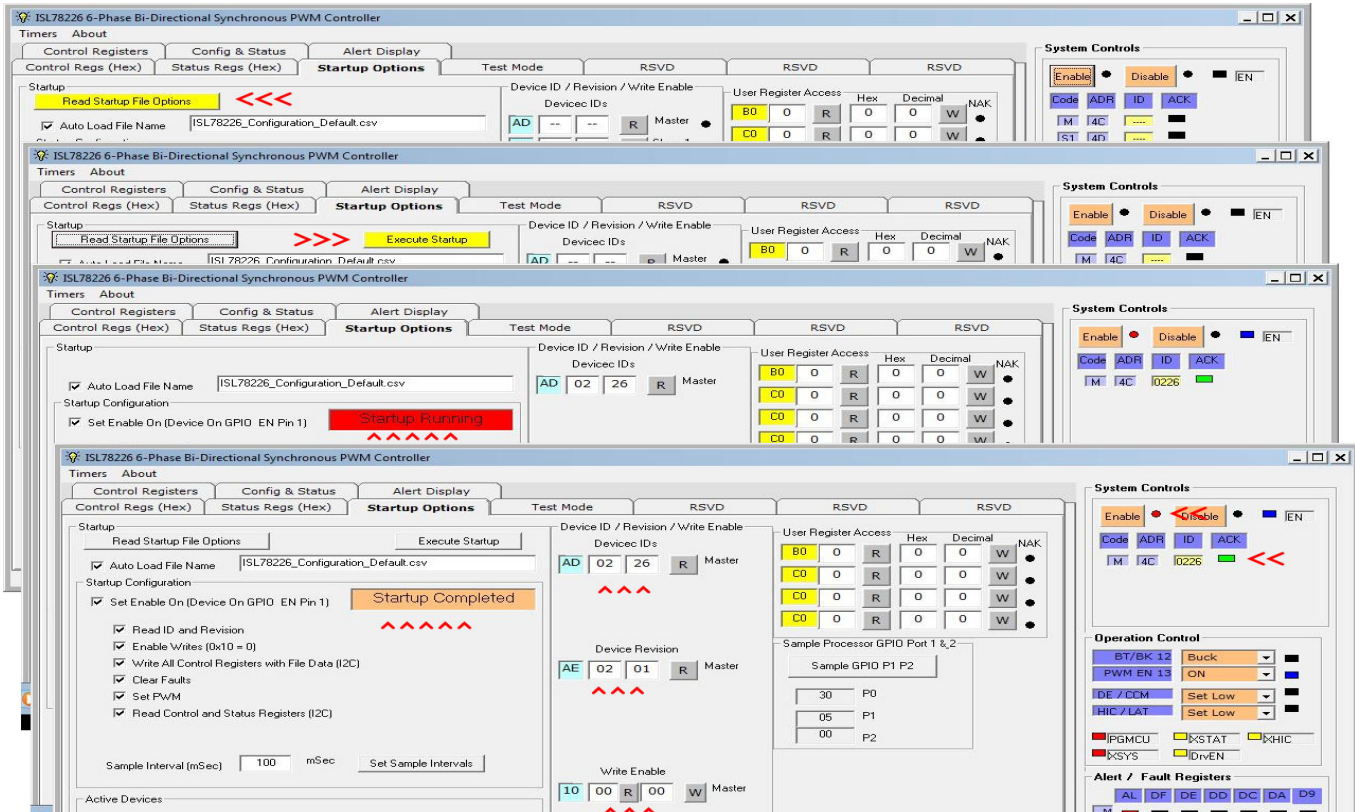

Figure 31. Automatic Startup Using the Startup Tab
The **Startup Options** tab (Figure 26 on page 22) enables automated startup or lets you manually perform specific steps. The Automatic feature goes through the four steps shown in Figure 31.
- (4) After loading the file and before executing the automatic startup, you can change the startup conditions by checking or unchecking the boxes. When you are ready for startup, click **Execute Startup**.
- (5) The software executes the enabled functions specified in the **startup.csv** file. The status window turns red during processing and indicates when the process is complete. As shown in Figure 31 on page 29, various fields are updated when completed.